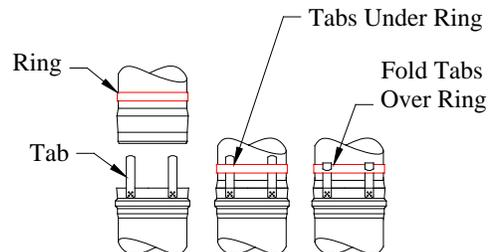

Fig 5A. (Ring and Tab Joint)
- Connect parts using the Ring and Tab Connection Method. See Fig 5A.